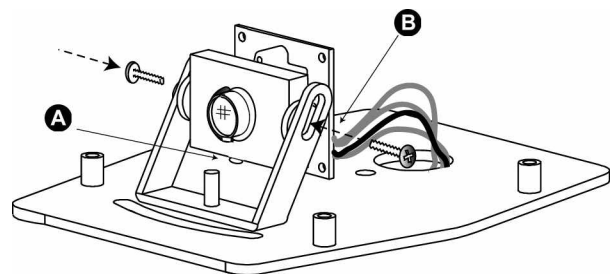

Figure 15. Camera orientation for street-side mounting
- 4) Insert the camera into the bracket, and replace set screws. The lens set screw and the wiring harness should now be positioned at the bottom of the camera. See Figure 15.